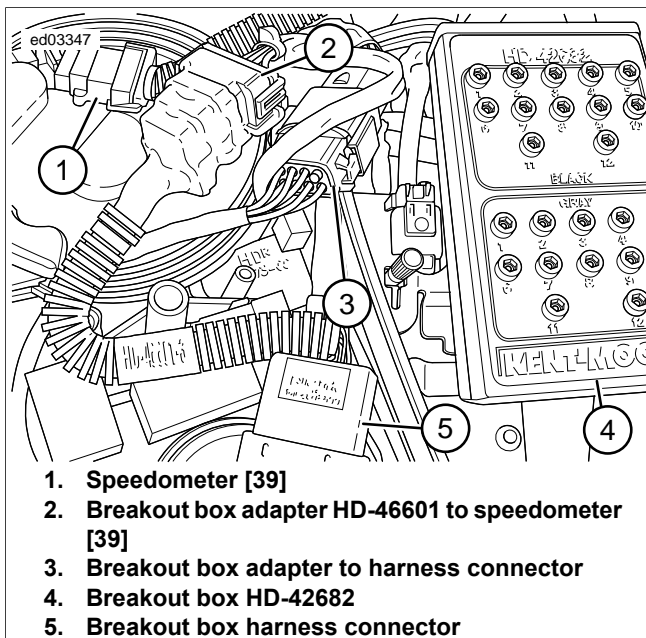

Figure 1-8. Breakout Box Connection
2. See Figure 1-8. Press latch and disconnect [39B].